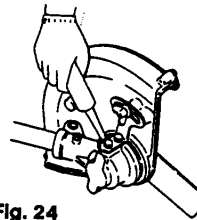

Fig. 24
a. The gear case is lubricated with multi-purpose grease. The level should be checked after every 50 hrs. of use by removing check screw. (Fig. 24)